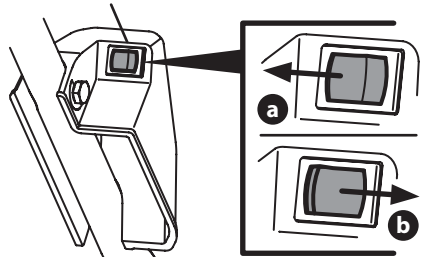

Figure 8
1. Perform the following to select engine speed (Figure 8):